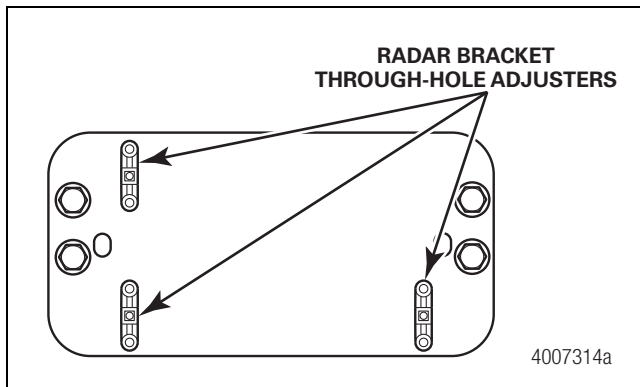

Figure 3.2
5. Remove the radar sensor from the radar sensor bracket by removing the three alignment screws. Figure 3.2.